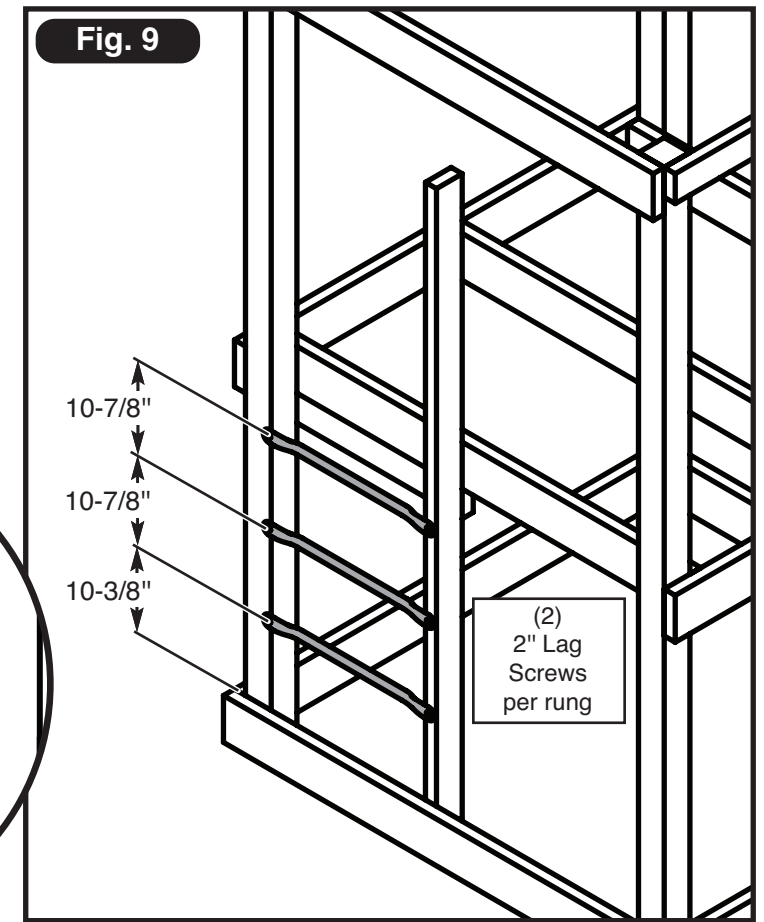

Fig. 9
3. Attach Metal Ladder Rungs as shown in (Fig. 9).